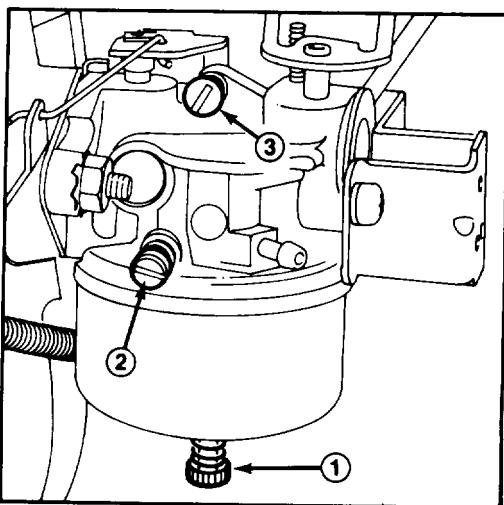

Figure 32
2. Power adjusting screw (Fig. 32) — Close screw by gently rotating it clockwise until a slight seating resistance is felt. Next, rotate
3. Idle mixture screw (Fig. 32) — Close screw by gently rotating it clockwise until a slight seating resistance is felt. Next, rotate idle mixture screw 1 1/2 full turns counterclockwise.
5. Rotate power adjusting screw (Fig. 32) clockwise — in — 1/8 turn at a time until engine misses because of a lean gasoline mixture. Then rotate screw counterclockwise — out — 1/8 turn at a time until engine runs unevenly because of a rich gasoline mixture. Next, rotate power adjusting screw clockwise, back to the midpoint between the rich and lean setting so engine runs smoothly.
6. Move throttle to idle speed. Next, rotate idle speed screw (Fig. 32) until engine idles fast — 1750 rpm.
7. Rotate idle mixture screw (Fig. 32) clockwise — in — 1/8 turn at a time until engine begins to miss because of a lean mixture. Then rotate screw counterclockwise — out — 1/8 turn at a time until engine runs unevenly because of rich mixture. Next, rotate idle mixture screw clockwise, back to the midpoint between rich and lean setting.
8. Again, rotate idle speed screw (Fig. 32) until engine idles at 1750 rpm.